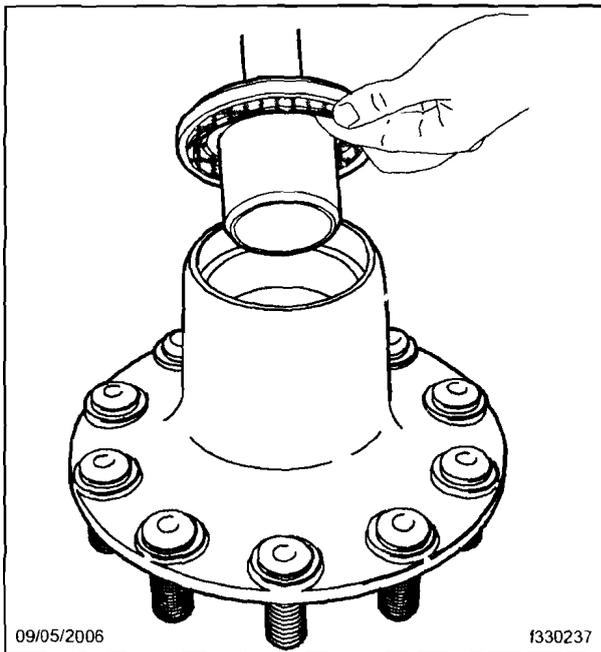

Fig. 3, Inserting the Tool in the Hub Bore
- 14.2 Insert the centering plug of the tool in the bore of the inner bearing cone. See Fig. 3. The plug prevents cocking of the seal in the bore.